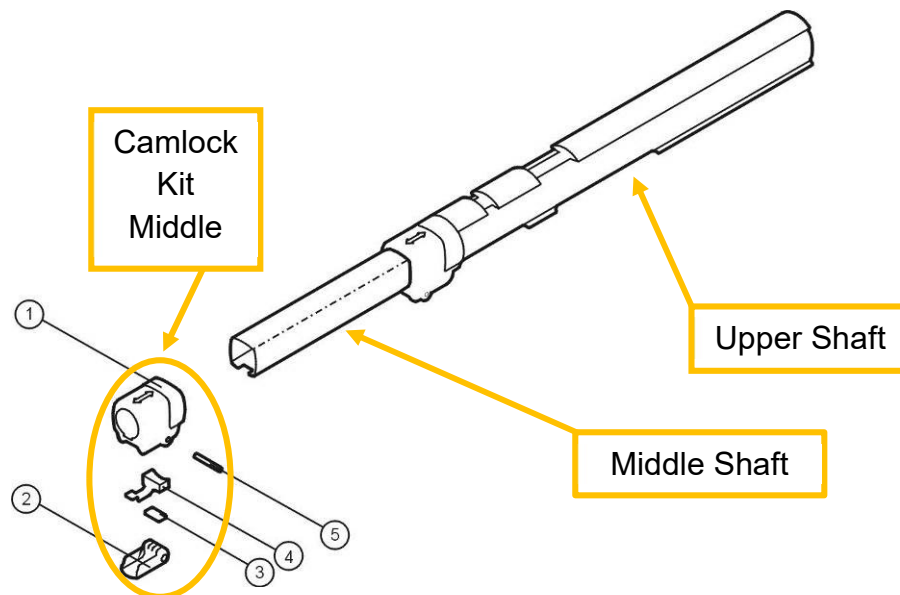

Figure 62: Camlock Middle.
- Using Figure 62 as a guide, use the 3mm hex driver (Allen key) or punch to push out the pin (Part 5) from the camlock middle.